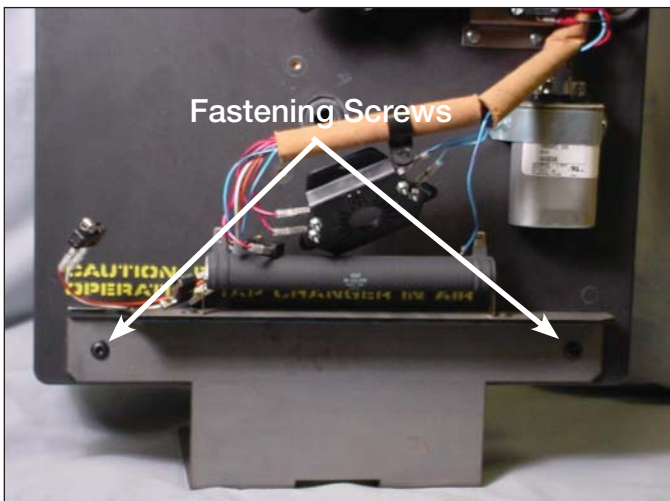

Figure 37.
- Place the mounting bracket, see Figure 36, to the base of the tap changer assembly and fasten with two pan head hex screw and tighten with a 5/32 Allen Wrench. See Figure 37.